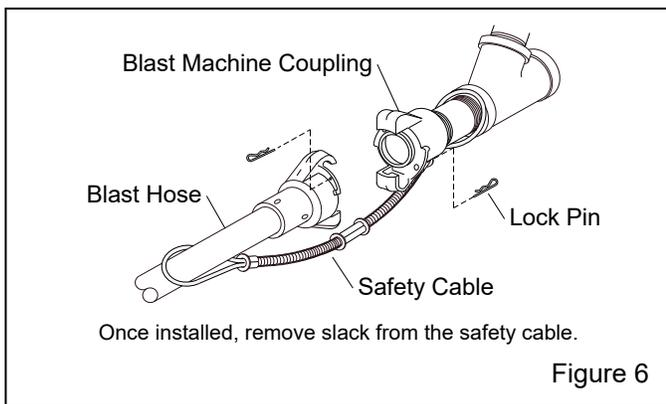

Figure 6
2.6 Connect Blast Hose – Figure 6